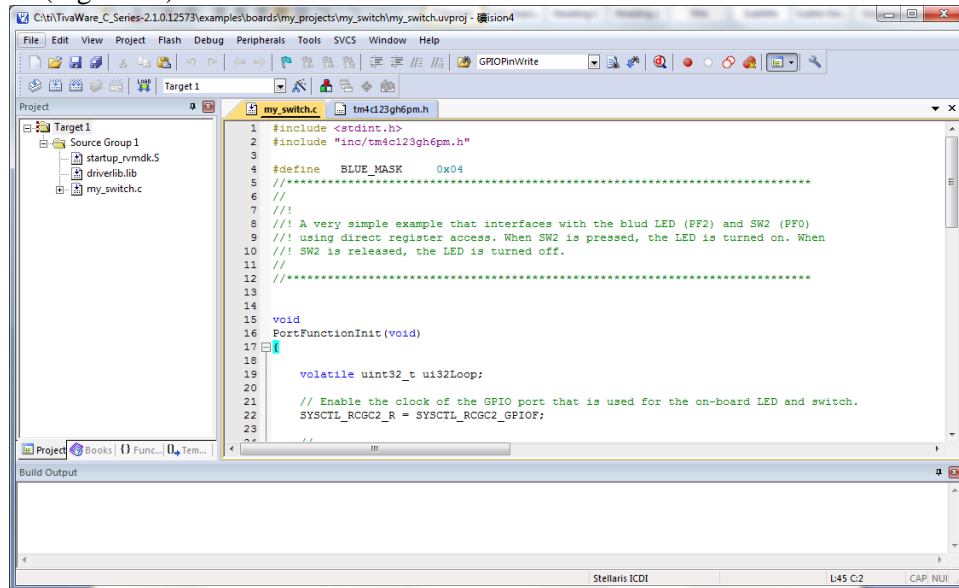

Figure 24
9. Now the file *my\_switch.c* is empty. We just copy the code in the file *switch.c* in the sample project *switch* and paste it in our *my\_switch.c* file. So far we have included all necessary files for the project (Figure 24).